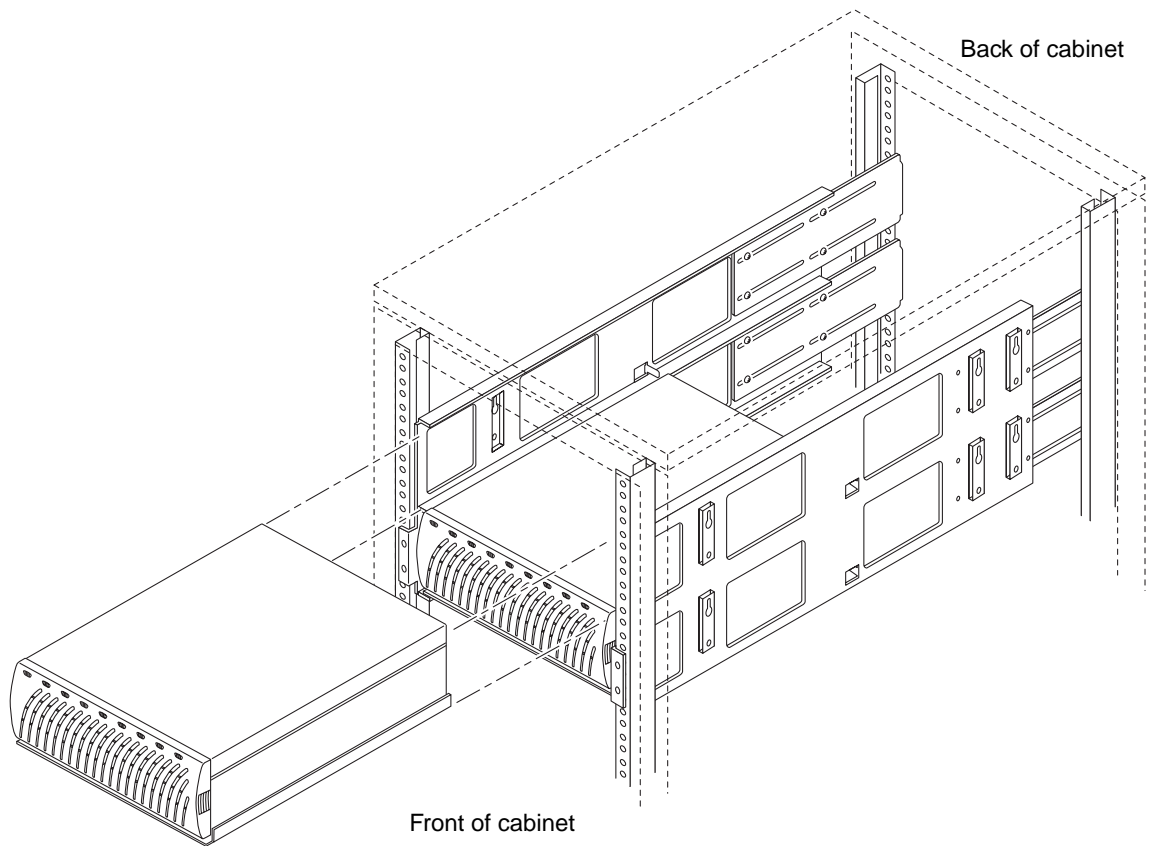

FIGURE 3-5 Installing a Second Disk Tray Into a 7-RU Side Rail
4. If you are installing a second disk tray into a 7-RU side rail, repeat Step 1 through Step 3 (FIGURE 3-5).